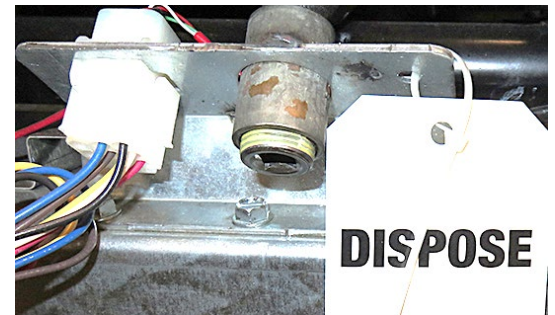

Figure 36
40. Using zip ties, attach (DISPOSE) tag to the waste oil port on the right side of the fryer, as viewed from the rear (see Figure 36).